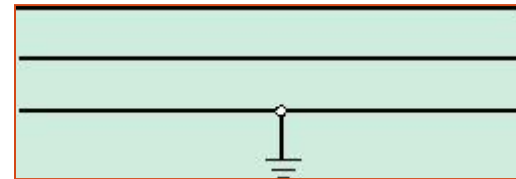

Fig 3.0: Single Phase-to-Earth unbalanced Fault Condition
- Single phase-to-earth fault: In this type of fault, one of the three phases is short-circuited to the ground, resulting in an unbalanced fault condition in the system. The diagram in Figure 3.0 below illustrates this fault condition.